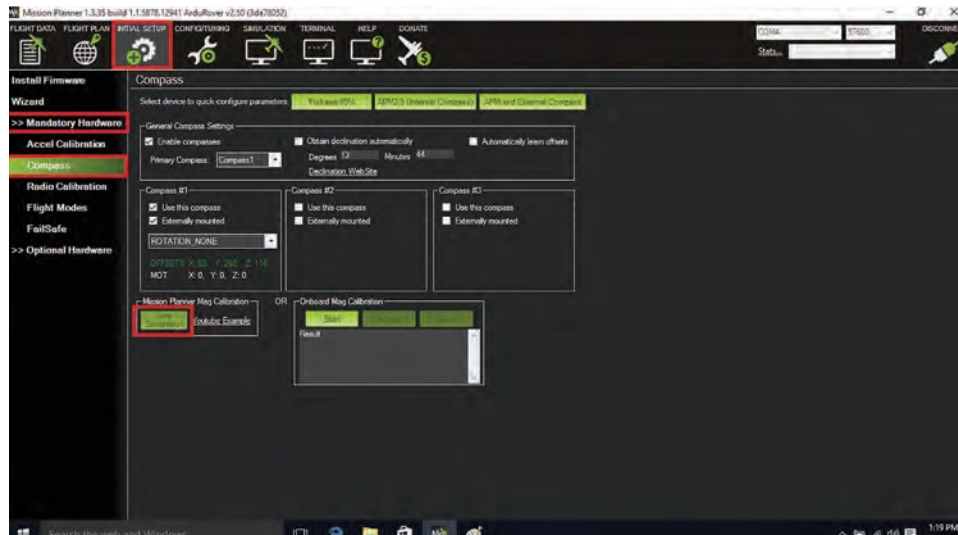

Figure 9: Click on Initial Set-up tool.
- 15.1 Click on Initial Set-up tool (top left)—see Figure 9.
- 15.2 Click on Mandatory Hardware—see Figure 9.
- 15.3 Click on Compass—see Figure 9.
- 15.4 Start Live Calibration under Mission Planner Mag Calibration—see Figure 9.